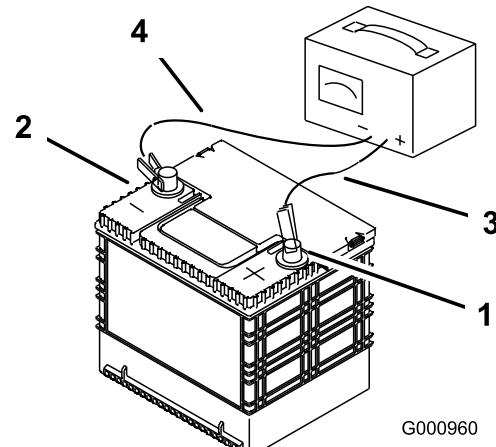

Figure 43
2. When the battery is fully charged, unplug the charger from the electrical outlet, then disconnect the charger leads from the battery posts (Figure 43).